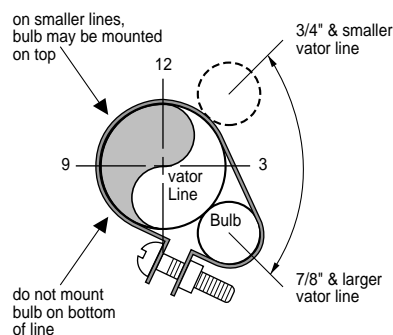

Fig. 5
- On lines that are 3/4" O.D. or smaller, the bulb may be installed on top of the line or side mounted (preferably at the 10 or 2 o'clock position) (See Figure 5).
- On lines that are 7/8" O.D. or larger, the remote bulb should be installed at 45° or at approximately the 4 or 8 o'clock position (See Figure 5).